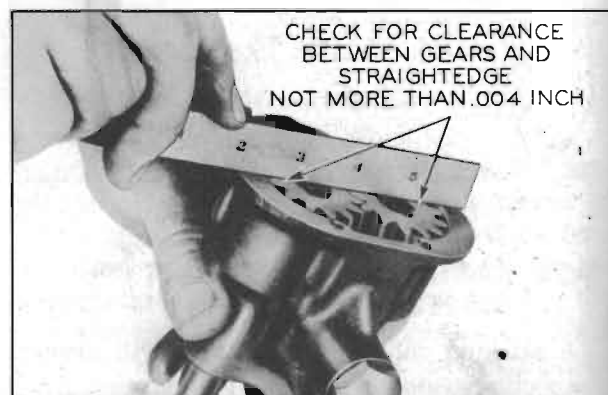

Figure 2-38—Checking Clearance of Gears at Cover
5. Check for clearance between gears and cover by using a steel straight edge as shown in figure 2-38. The clearance between straight edge and gears should be such that the gears turn freely and must not be more than .004".